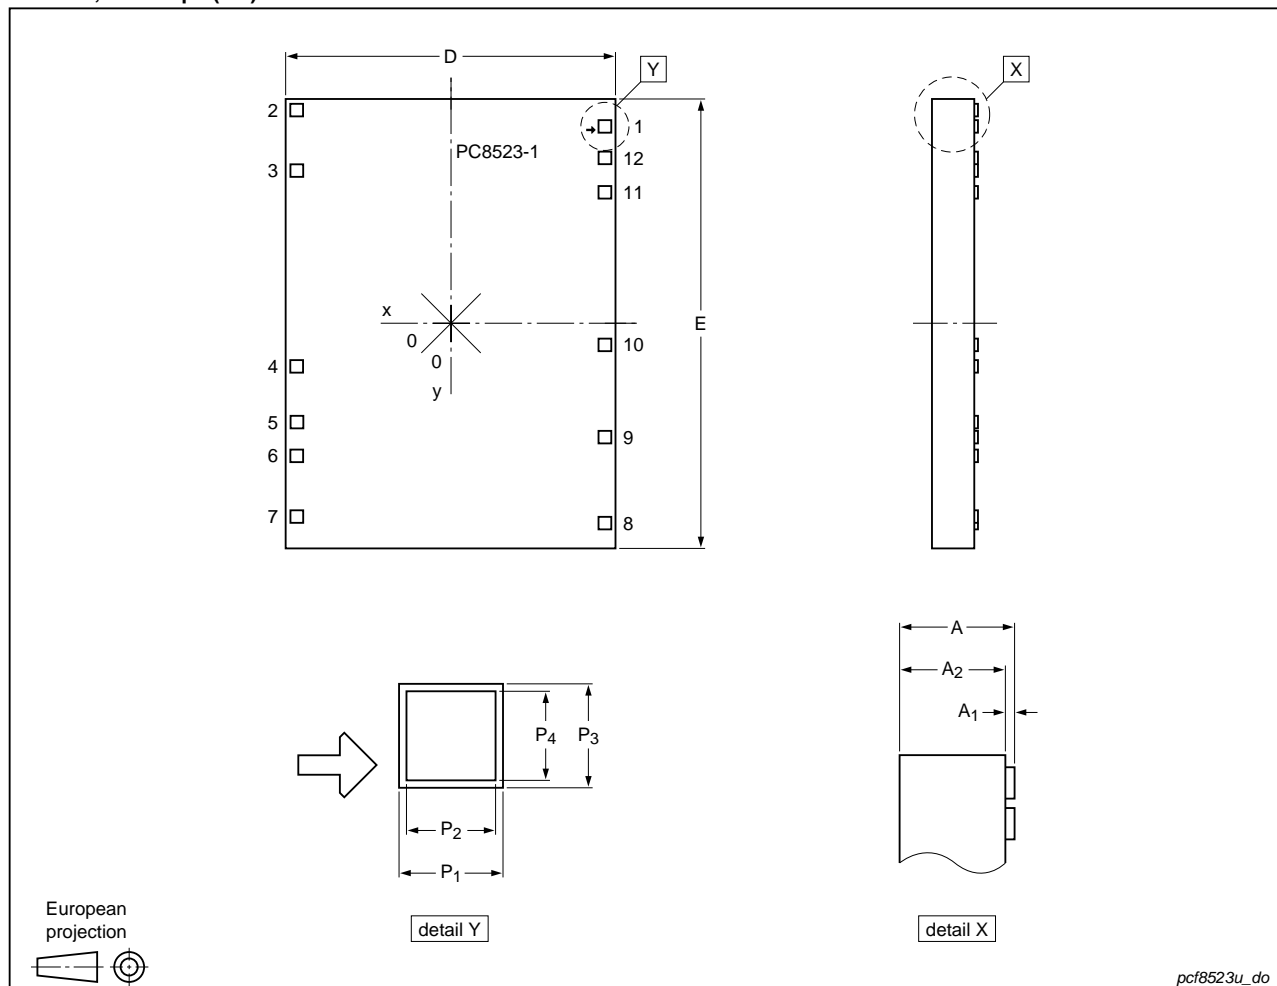

Fig 40. Bare die outline of PCF8523U
All x/y coordinates represent the position of the center of each bump with respect to the center (x/y = 0) of the chip; see Figure 40.
- [1] The x/y coordinates of the alignment mark location represent the position of the REF point (see Figure 41) with respect to the center (x/y = 0) of the chip; see Figure 40.